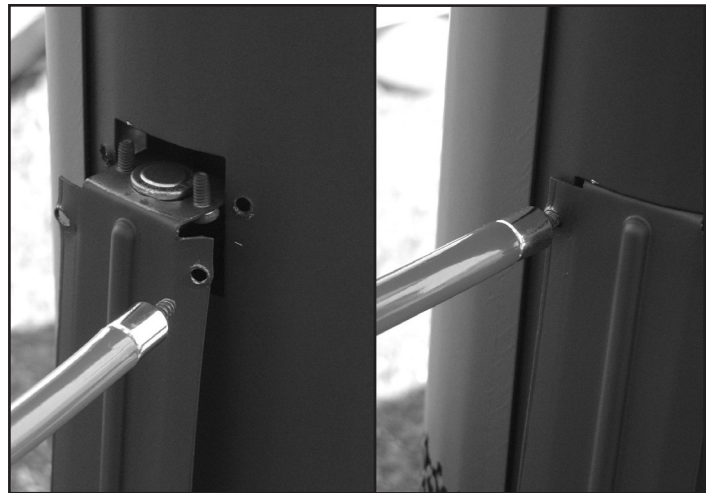

Figure 55: Spill switch installation.
3. Remove the four mounting screws holding the spill switch bracket and remove the bracket (see Figure 55).